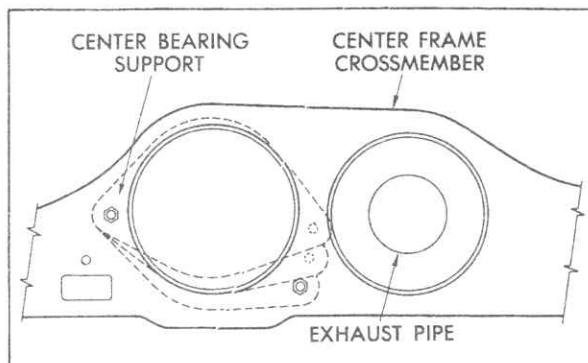

Fig. 4-22 Adjusting Center Bearing Support (698)
2. Remove adjusting bolt and lockwasher from frame center cross member, Fig. 4-22, and loosen pivot bolt. Align center bearing support with center frame cross member as determined from the following table and install bolt and lockwasher. Torque bolts evenly to 16 foot-pounds.